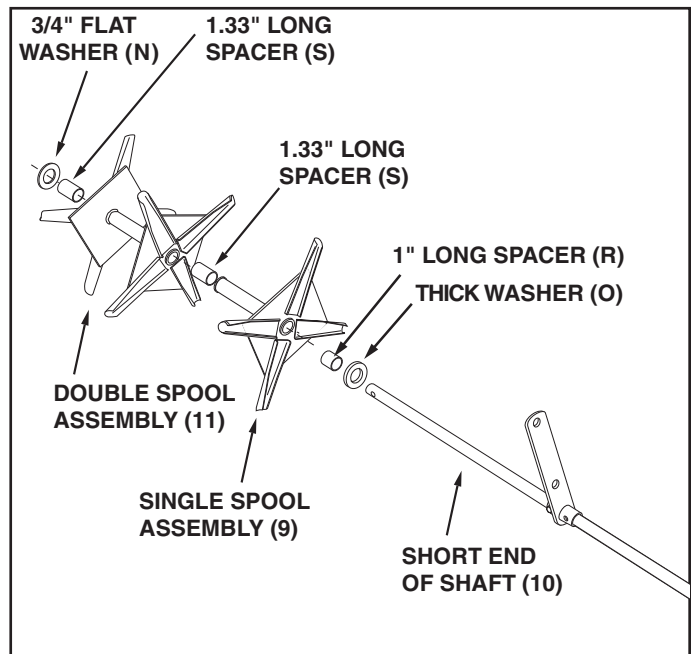

FIGURE 3
- Identify the short end of the shaft. Assemble a thick washer (O), a 1" long spacer (R), a single spool assembly, a 1.33" long spacer (S), a double spool assembly, another 1.33" long spacer (S), and a 3/4" flat washer (N) onto the short end of the shaft. See figure 3.